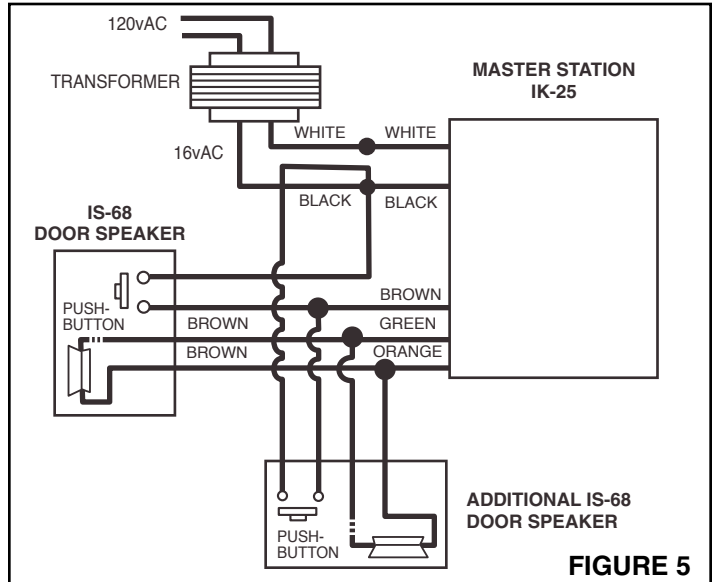

FIGURE 5
3. Connect the two Door Speaker **BROWN** wires to the existing connections of Door Speaker **BROWN** wires and master Speaker's **ORANGE** and **GREEN** wires. See Figure 5.
4. Connect one pushbutton wire to the existing connection between the other pushbutton wire and the **BROWN** Master Speaker wire. See Figure 5.
5. Connect the second pushbutton wire to the existing connection between the other pushbutton wire and the Master Station's **BLACK** transformer secondary wire. See Figure 5.